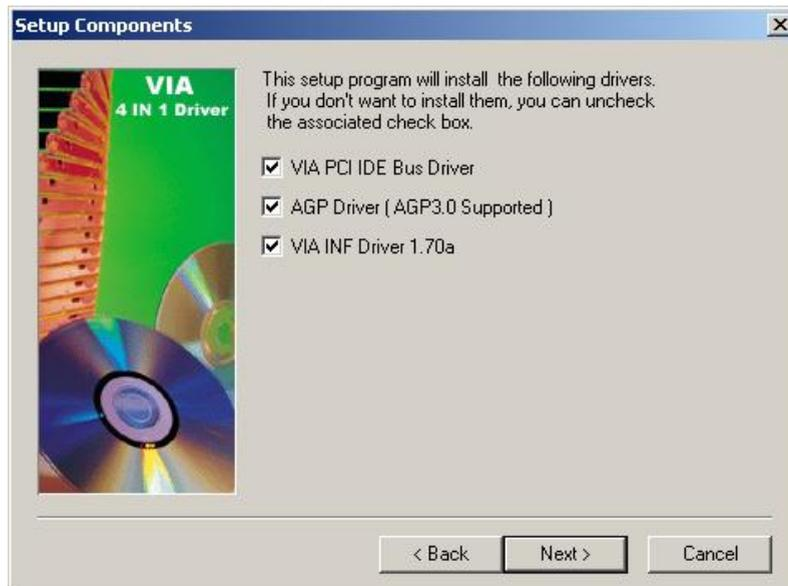

Figure 7-6: Driver Selection
Step 7: Select the setup components (see **Figure 7-6**) that must be installed in the